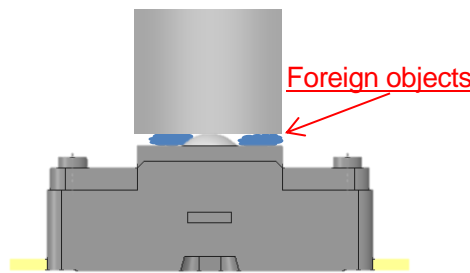

Fig5. Foreign objects between the force-applying part and HFD-500
- ・ユーザー様加圧子と本センサの間に異物がないようにしてください。(図 5)
- ・Please make sure there are no foreign objects between the force-applying part and this sensor. (Fig 5)